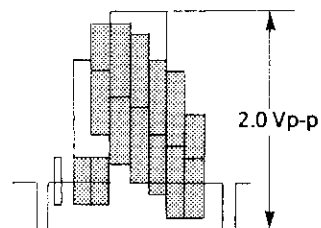

Figure 2-4.
2. Feed the colour bar signal to the video input terminal. Observe the voltage of the pin ⑨ of IC201 on the oscilloscope screen, adjust R203 (EE level control) to obtain the value indicated in Figure 2-4.